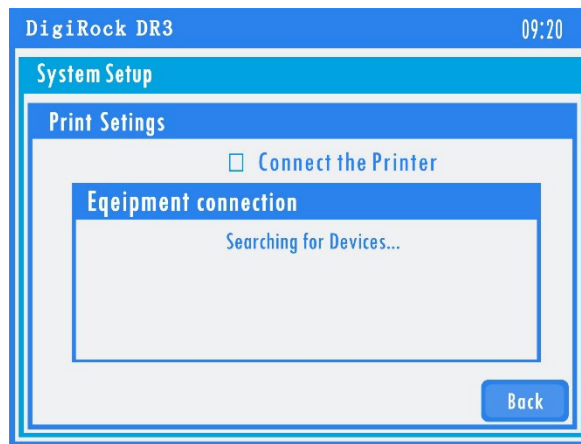

Fig 5-9 Searching for Devices
- 2) Click the small box in front of the [connect the printer], start signal search function shown as Fig 5-9.